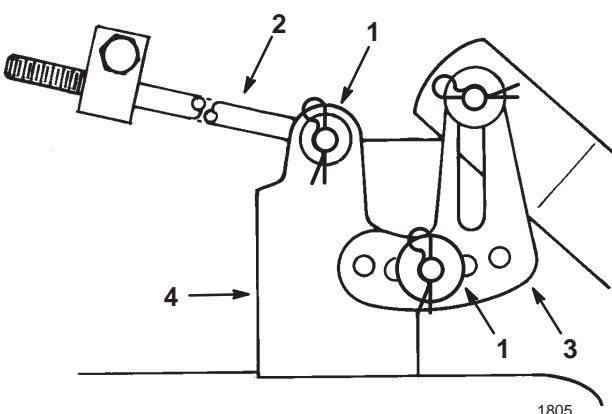

Figure 44
- Slide the end of the long rod through the hole in the mower mount (Fig. 44). Install the washer and hairpin cotter to secure the rod in place. Repeat this step on the opposite side of the mower.
- Mount the slotted mower leveling bracket onto the pin on the height-of-cut arm (Fig. 44). Install the washer and hairpin cotter to secure the mower. Repeat this step on the opposite side of the mower.